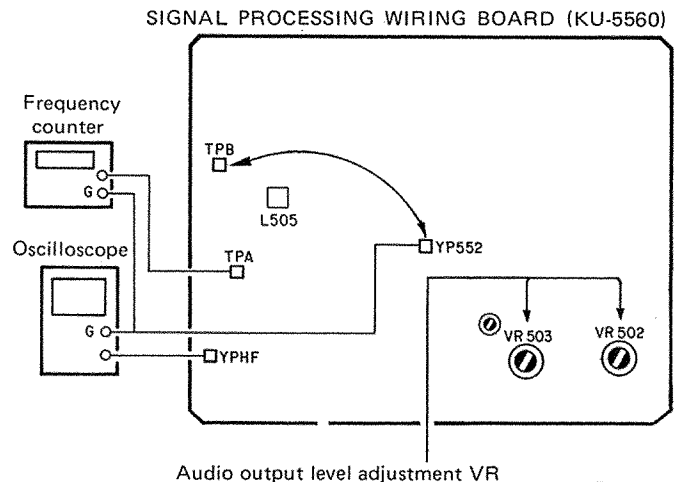

Fig. 33
2. Adjustment of audio output level. (Fig. 33)